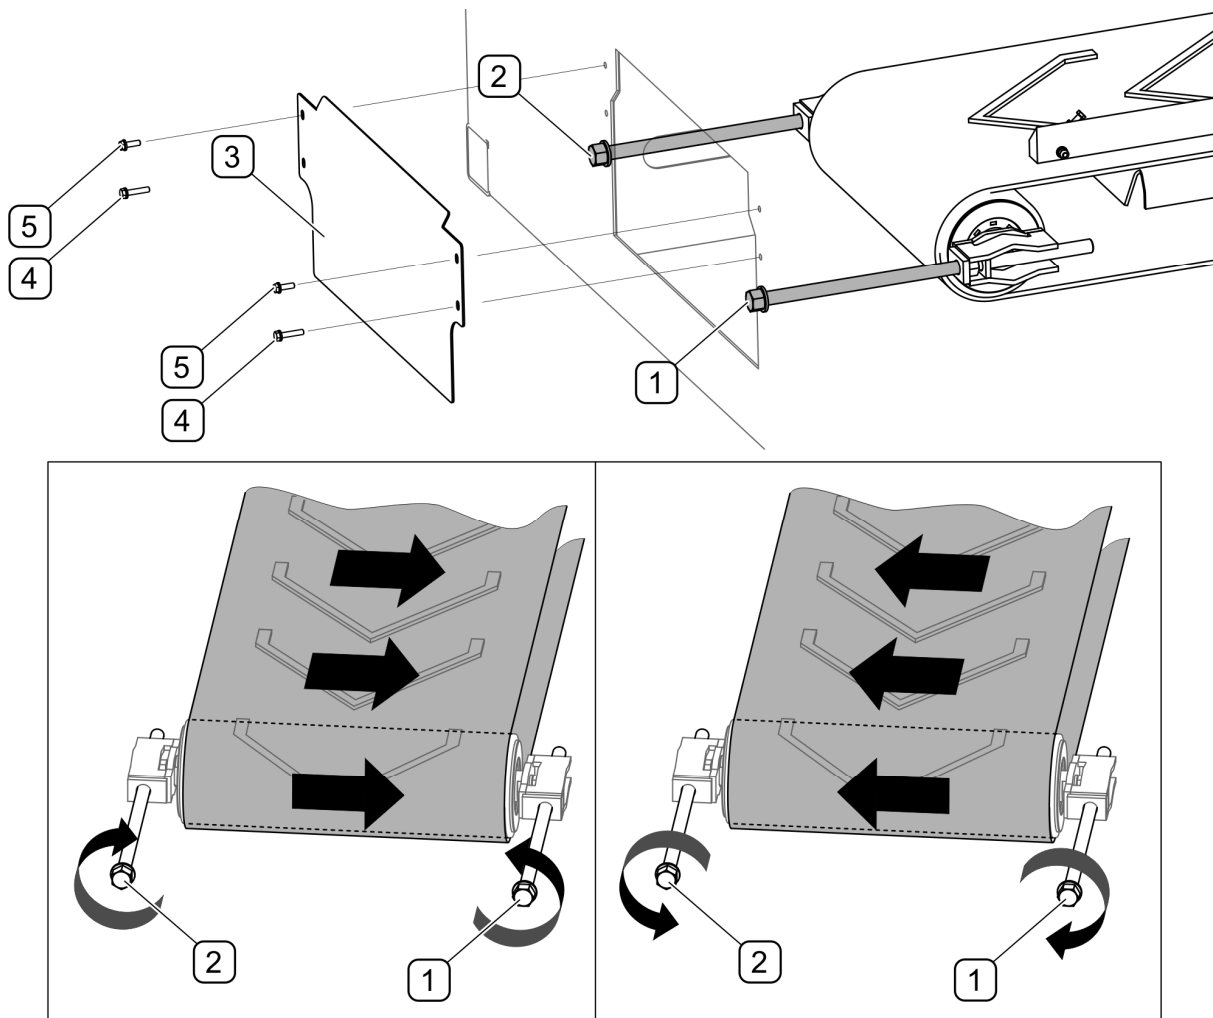

FIGURE 5.9 Adjustment of tightening roller
Before starting the conveyor belt adjustment (FIGURE 5.9), unscrew bolts (4) and (5) and remove cover (3). Start the sand spreader's engine. Activate "Unloading" function in "Counters" menu on the control panel. A detailed description can be found in section 4.8 UNLOADING.
Conveyor belt is adjusted during conveyor operation by means of tensioning bolts (1) and (2) located on the front wall of the tank (FIGURE 5.9). Depending on shifting of conveyor belt (FIGURE 5.9), choose proper rotation direction of tensioning bolts (1) and (2). During the adjustment, make one turn of each bolt and wait for some time to see the effect of the adjustment. Repeat the activity until moving conveyor belt is positioned in the middle of the conveyor roller.
Conveyor belt may be tightened when the conveyor drive is switched off. Conveyor belt is tightened by means of bolts (1) and (2) located on the front wall of the tank (FIGURE 5.9). Turn both bolts (1) and (2) clockwise. To avoid shifting the belt sideways to the edge of the roller, turn both bolts by the same number of rotations.